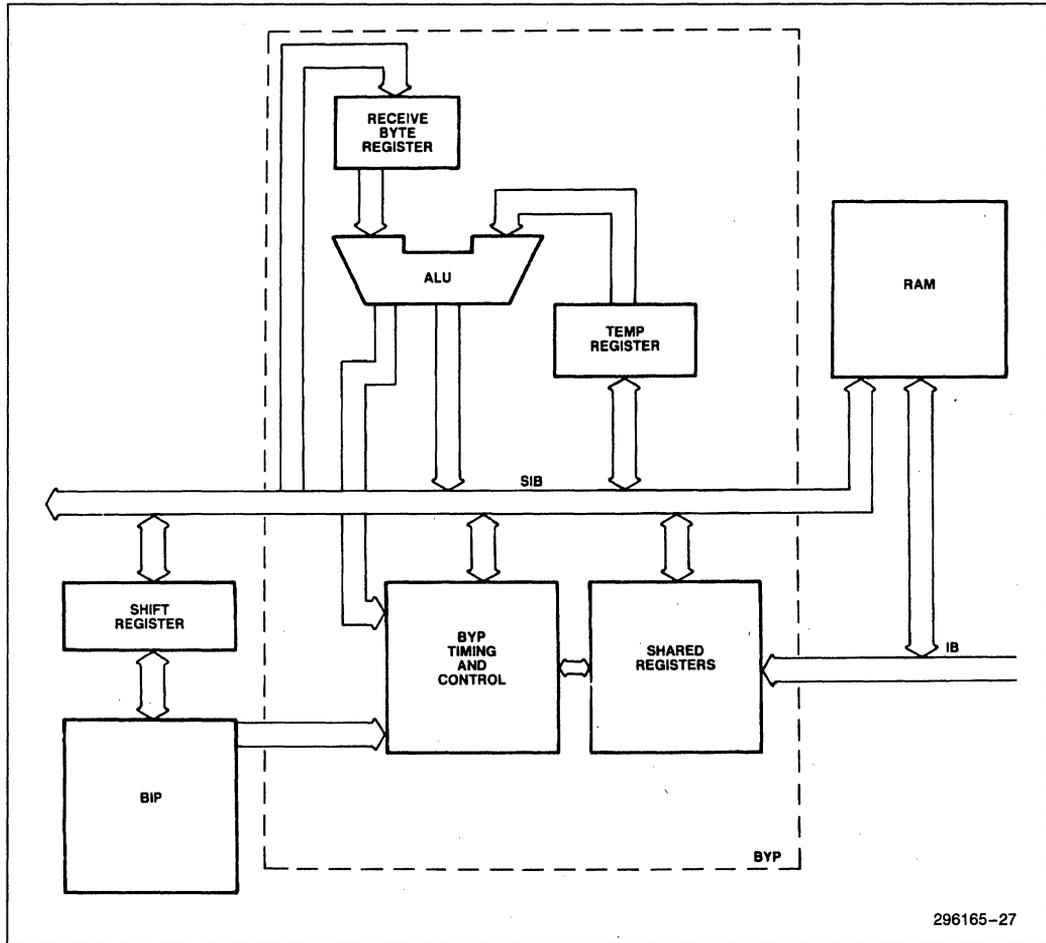

Figure 15. The Byte Processor
Figure 15 is a block diagram of the byte processor (BYP). The BYP contains the registers and controllers necessary to perform the data manipulations associated with SDLC communications. The BYP registers may be read or written by the CPU over the 8044's internal bus (IB), using standard 8044 hardware register operations. The 8044 register select PLA controls these operations. Three of the BYP registers connect to the IB through the IBS, a sub-bus which also connects to the CPU interrupt control registers.